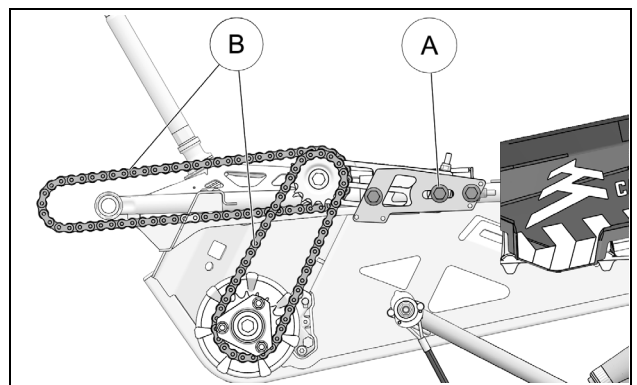

Figure 28
If a chain is adjusted to its highest setting (A) and the required amount of play (3-6 mm [1/8-1/4 in.]) cannot be obtained at the mid point (B) between the sprockets, the chain should be replaced. See Figure 28.
Verify wear on Track by inspecting the internal (A) and external (B) condition of the Track's carcass rolling path, driving lugs (C), the profile (D). Make sure that the Track's internal structure is not visible at cuts or in worn areas. Make sure the steel clips (E) are not abnormally worn. See Figure 28.